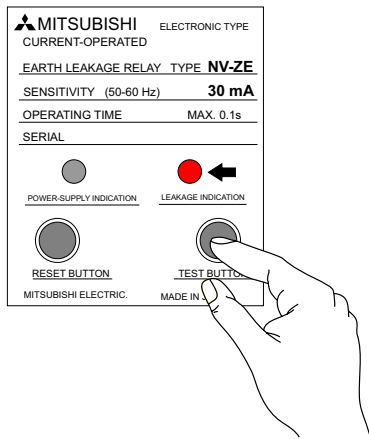

Figure 76. Earth Leakage Relay (Test Button)
4. Press the **TEST** button (Figure 76) on the earth leakage relay and verify that the leakage indicator lamp turns on **RED**.